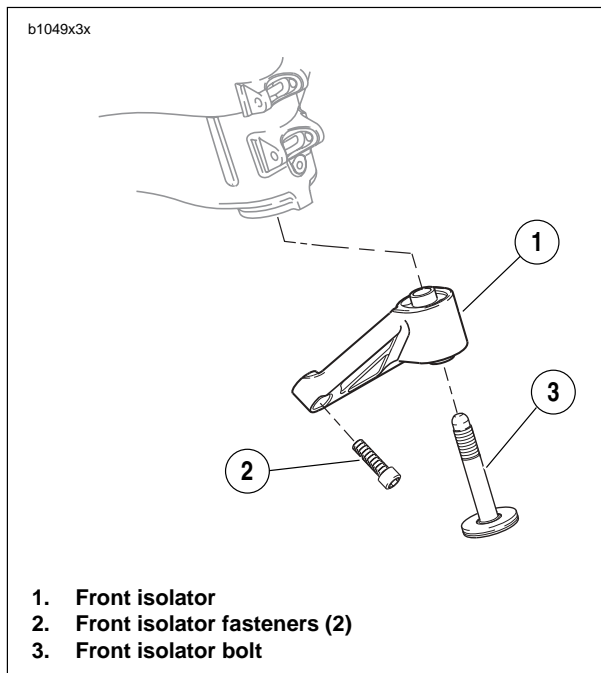

Figure 3-43. Front Isolator
10. See Figure 3-43. Insert front isolator bolt (3) through front isolator (1) and loosely thread into frame. Do not tighten at this point.
11. Install isolator mounting fasteners (2) and tighten to 49-51 ft-lbs (66.4-69.1 Nm).